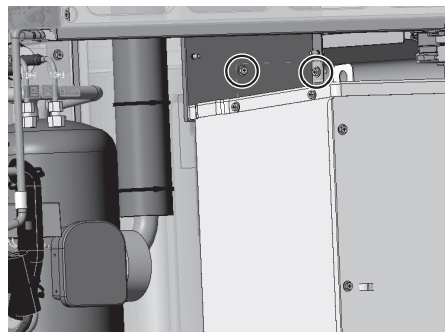

Figure 8
- (8) Remove the inverter cooling duct by unscrewing the two screws. (See Figure 8. Applicable to the S-module only)